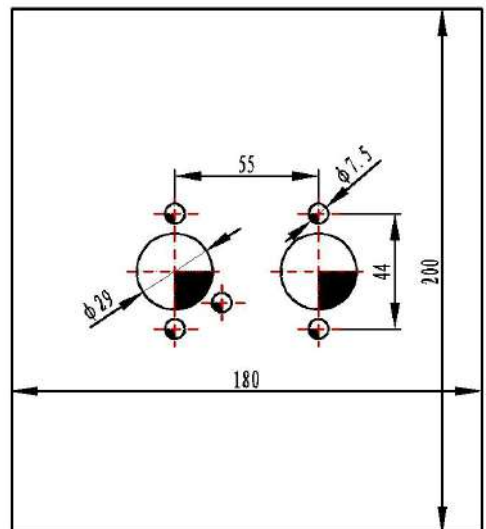

Fig.12
4.2.4 If the sickness of the installation panel < 1.5mm a mounting plate may need. Between mounting plate and the car body must also be sealed (use glass glue Fig.12).